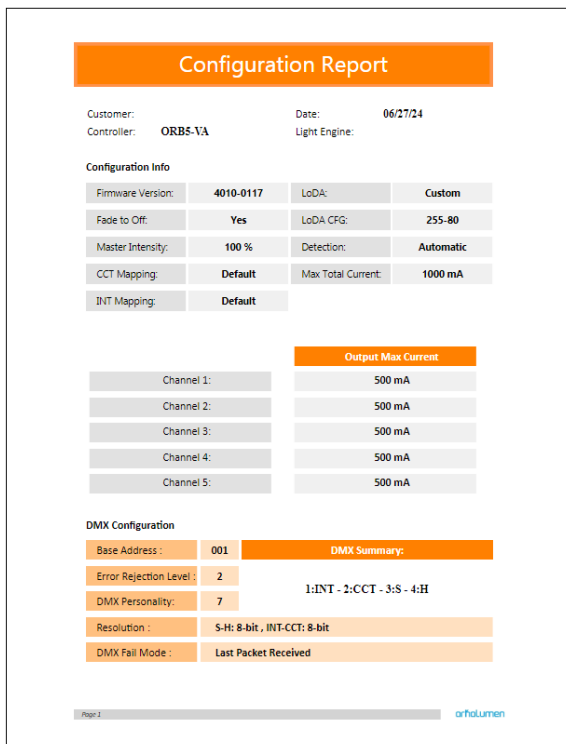

Figure 18 Example of the first page of a generated report
5. Click **Generate Report**, the default web browser will open and display a preview of the print (shown in Figure 18).